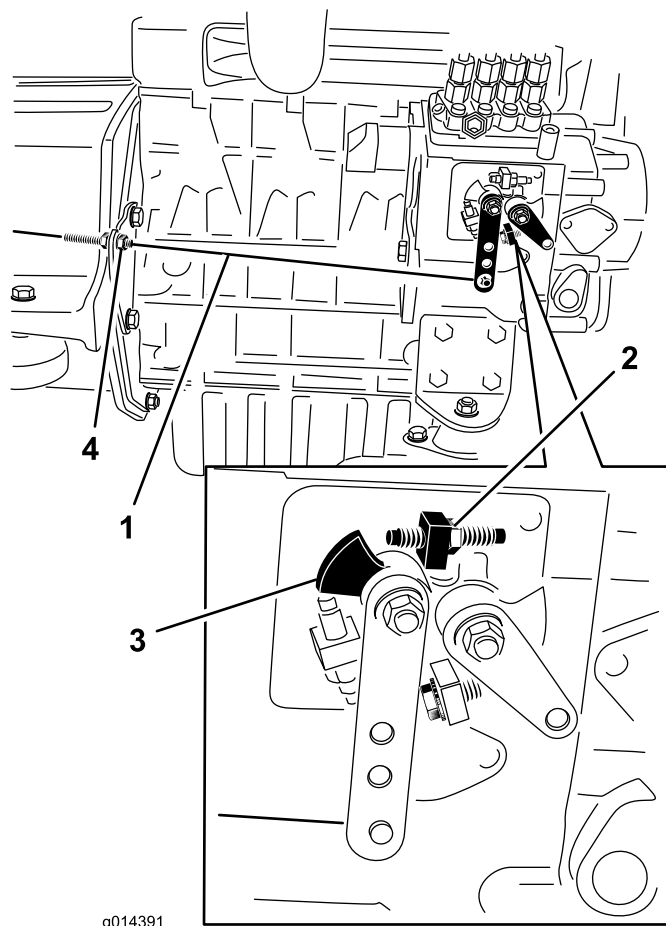

Figure 28
2. Check the position of the speed control lever on the engine fuel injection pump. The speed control lever should be contacting the high speed screw when the throttle control lever is in the FAST (detent) position (Figure 28).
3. If necessary, the position of the throttle control cable jam nuts can be adjusted until speed control lever contacts high speed screw when throttle control lever is at FAST (detent) position (Figure 28).